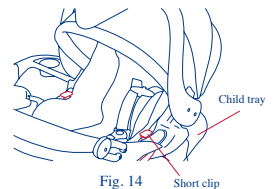

Fig. 14
- Strap the short clips over the car seat through the seat belt slots on the infant car seat. (Fig. 14)